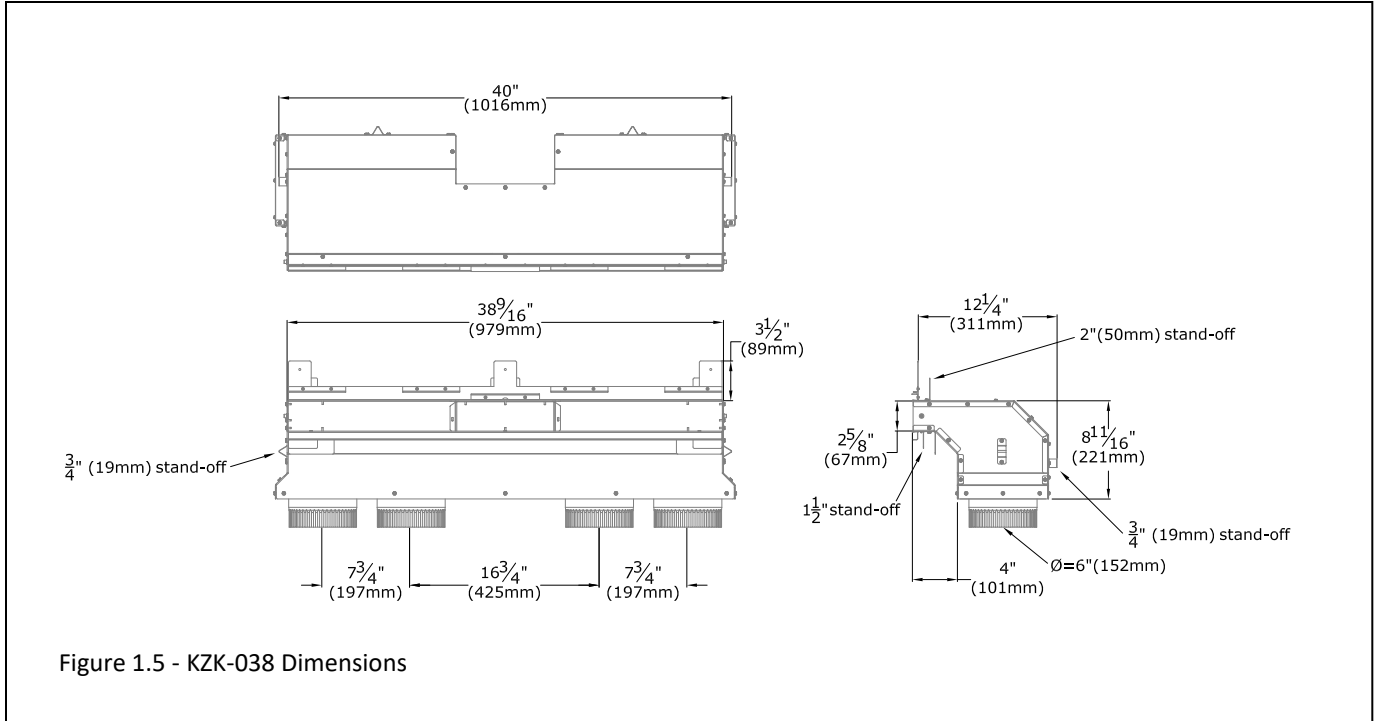

Figure 1.5 - KZK-038 Dimensions
- KZK-CPL6 (sold separately) is (6) 6" couplers that connect (2) KZK-410-6. You will only need (4) 6" couplers for installation. If you are mounting the plenum above the fireplace between 10' to 20', you will need (2) KZK-410-6 kit and (1) #KZK-CPL6 coupler kit.
- Figure 1.5 shows two common configurations.